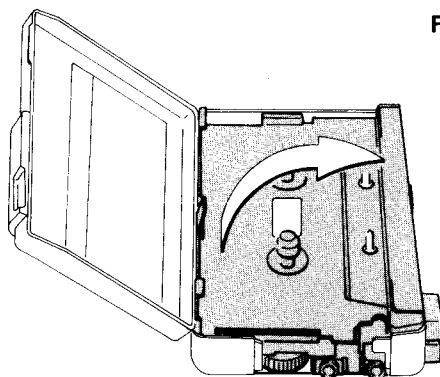

Fig. 2
- 2) 電池蓋を開きメカニズムを矢印方向に持ち上げる。(Fig. 2 参照)
- 2) Open the battery lid and raise the mechanism in the direction of the arrow. (See figure 2)